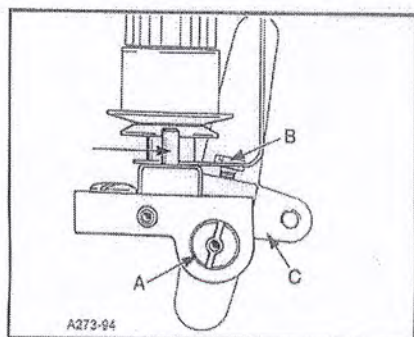

FIG. 18
The thread tension release is set correctly when it begins to function at the point when the upper feed roller begins to rise. When adjustment is necessary, loosen screw (B, Fig. 18) in lift lever(C). Facing the tension release shaft (A) from the right end of the machine, insert screwdriver in slot in shaft (A). Turn the screwdriver clockwise to raise pins(D) or counterclockwise to lower pins. Retighten screw(B).